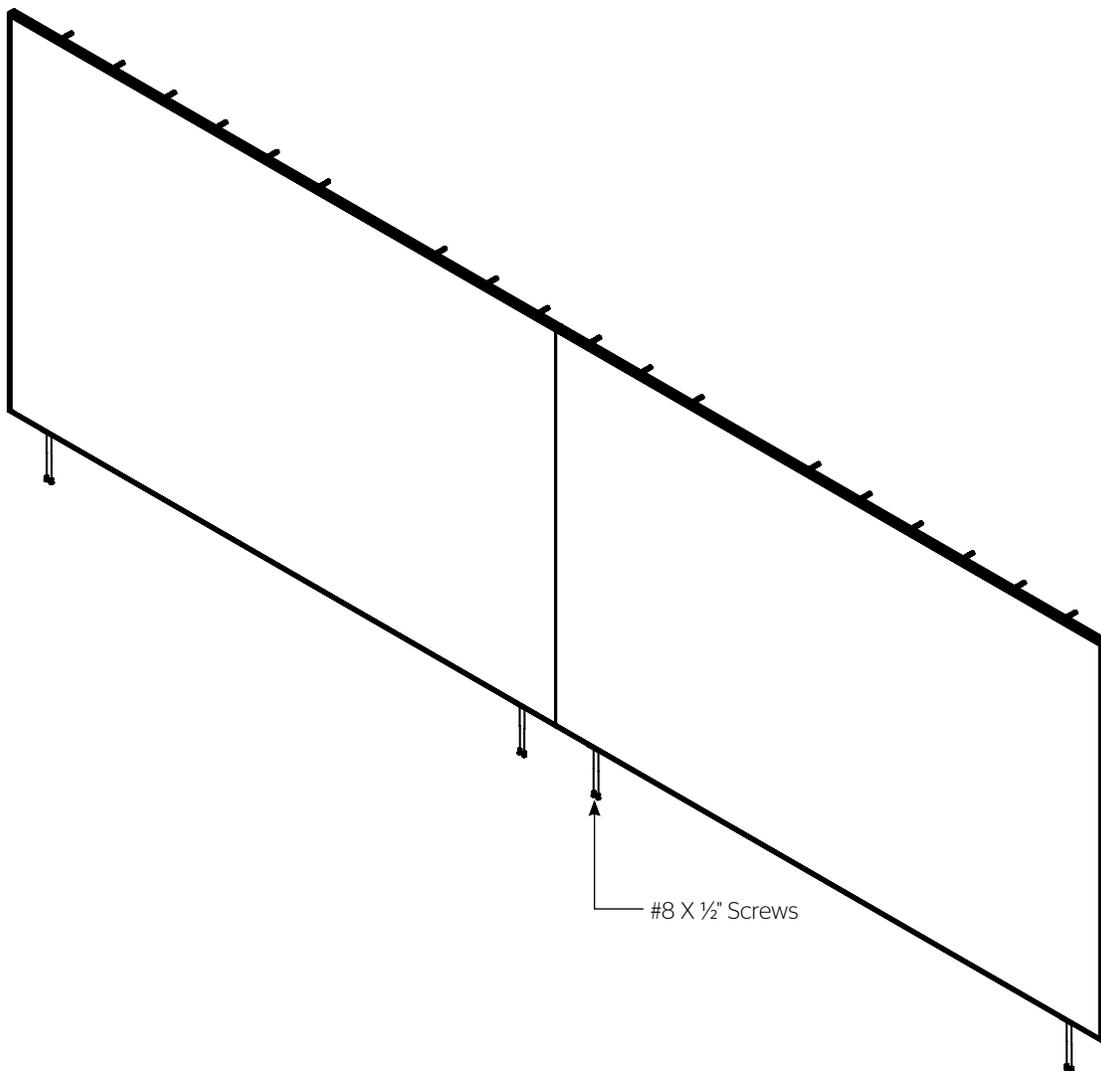

Figure 4
- Tap the bottom of the L-brackets with the rubber mallet until they make contact with the frame. Secure the L-brackets to the frame with the remaining (8) #8 x 1/2" screws (Figure 4).